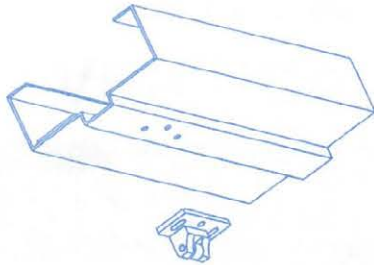
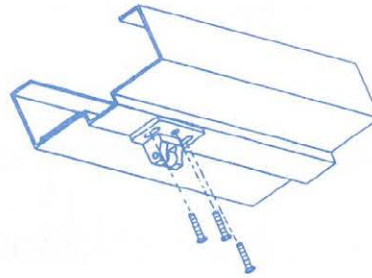

Figure 12
Figure 13
6. Mark mounting holes for top strike on jamb by Strike Template (see Fig. 12.) then fasten with supplied screws. (See Fig. 13.)